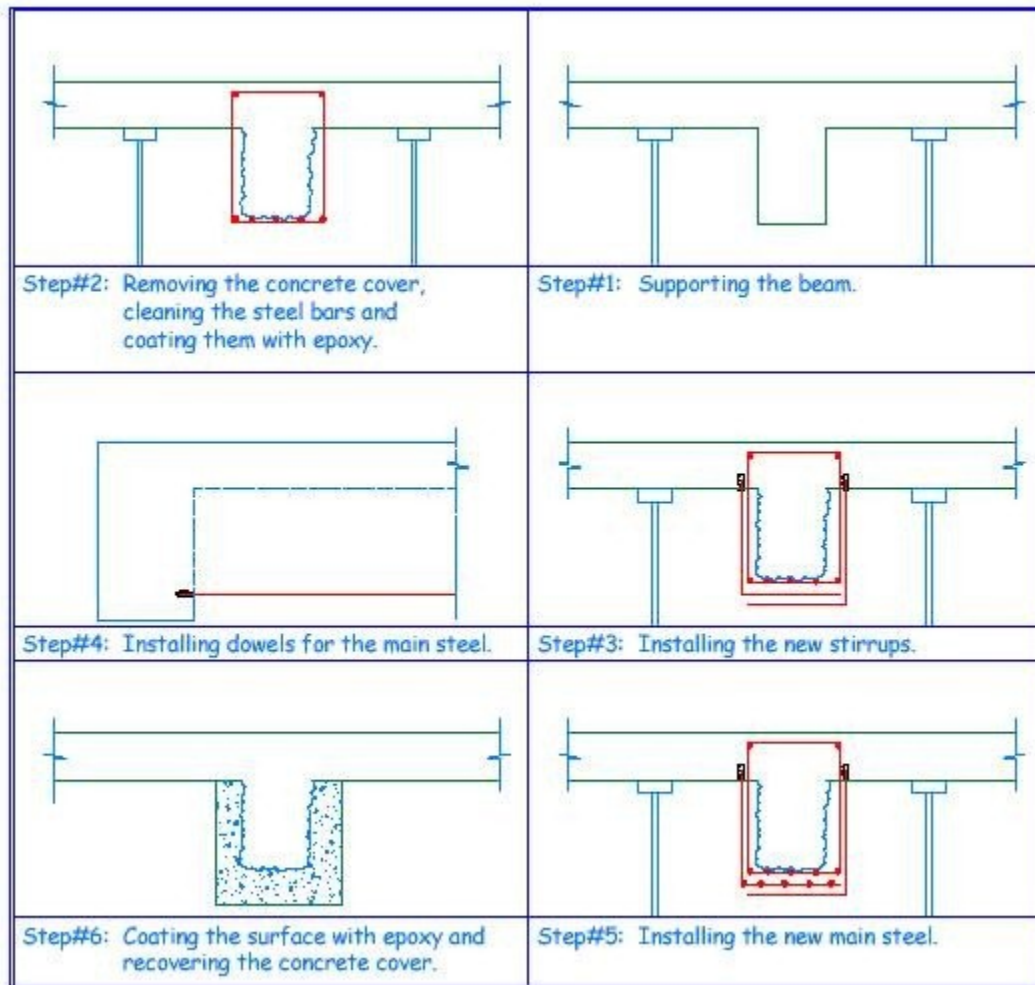

Fig.2-
4. The holes are filled with an epoxy material with low viscosity and installing steel connectors for fastening the new stirrups. 5. Steel connectors are installed into the columns in order to fasten the steel bars added to the beam. 6. The added stirrups are closed using steel wires and the new steel is installed into these stirrups. 7. The surface is then coated with a bonding epoxy material. 8. The concrete cover is poured over the new steel and the new stirrups. The previous steps are illustrated in Fig 2.